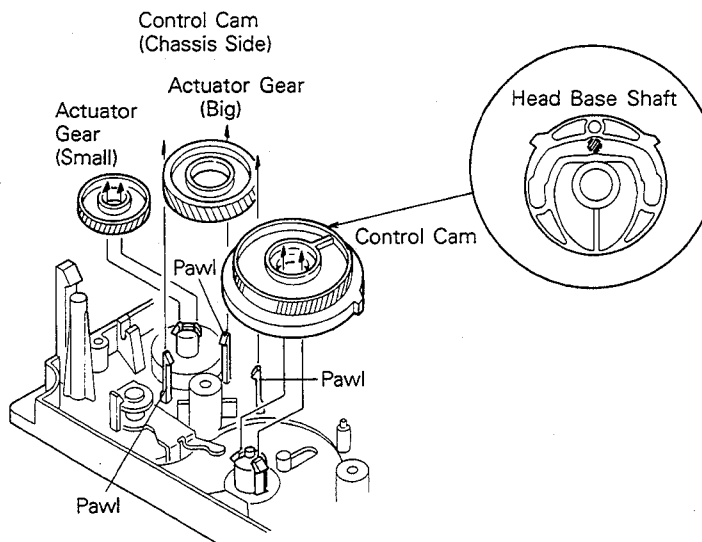

Fig. 7-26
■ **Actuator gear (big)** (Fig. 7-21, Fig. 7-26)
■ **Control cam** (Fig. 7-21, Fig. 7-26)